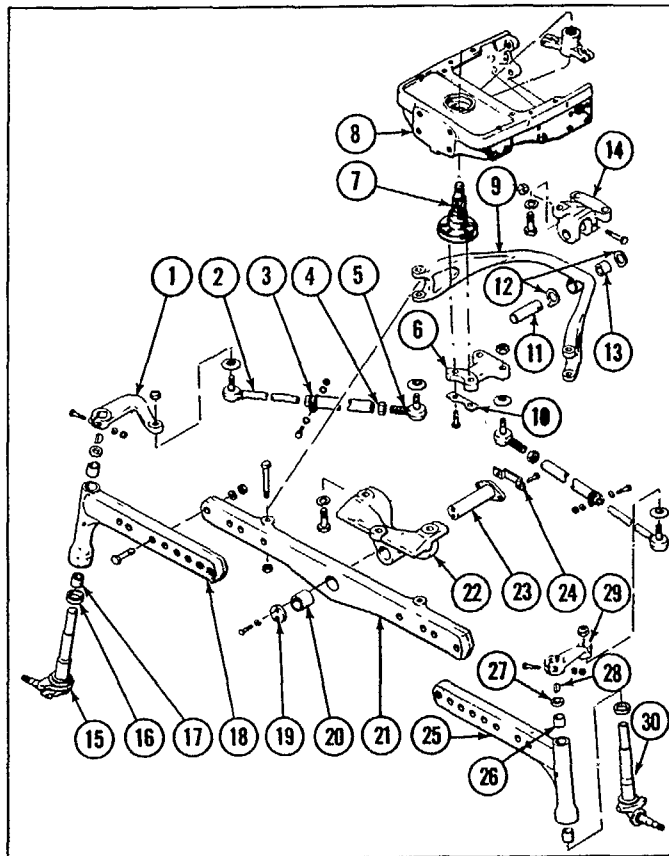

Figure 26
Refer to the exploded view illustration, Figure 26, as an aid during the overhaul of the wide adjustable front axle.
KEY FOR FIGURE 26
2. Inspect the bushing (20), Figure 26, in the center axle section for wear or score marks. If the bushing is damaged, remove it and install a new one being careful not to damage the bushing bore.
3. Inspect the bushing (13), Figure 26, in the radius rod for wear or score marks. If the bushing is damaged, remove it and install a new one being careful not to damage the bushing bore.